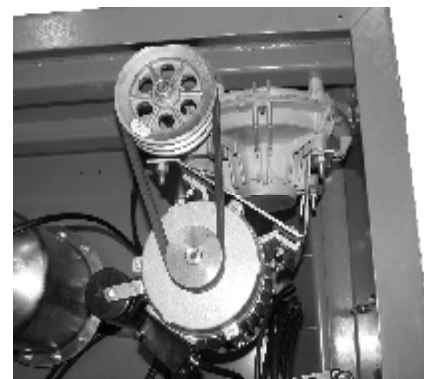

Fig.16
- I The gearing chain: The gearing chain in this machine is made up of motor, pulley, worm reducer, turntable and so on (Fig. 16).